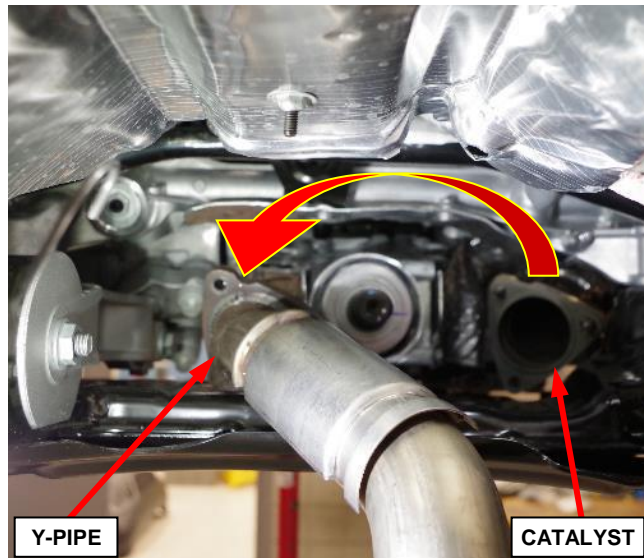

Figure 64 – Position Y-Pipe to Left
- k. Separate the Y-Pipe from the rear catalyst then position the Y-pipe to the left for removal clearance (Figure 64).